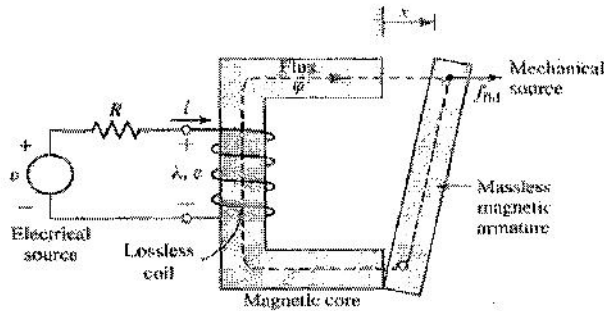

Fig.1
- b) Consider the operation of an **electromagnetic relay** shown in fig.1, where one winding is mounted on a stationary member of iron and a movable member of iron is attached to a wall of the relay by a spring on one side. Derive the expression for mechanical force if the plunger shown in fig.1 is allowed to move an infinitesimal distance in the direction of magnetic force acting upon it. 8+8=16
- b) In an electromagnetic relay shown in fig. 1, the exciting winding has 5000 turns. The cross-sectional area of the magnetic core is $20 \text{ cm} \times 20 \text{ cm}$. The reluctance of the magnetic circuit may be assumed to be negligible. Also neglect fringing effects.